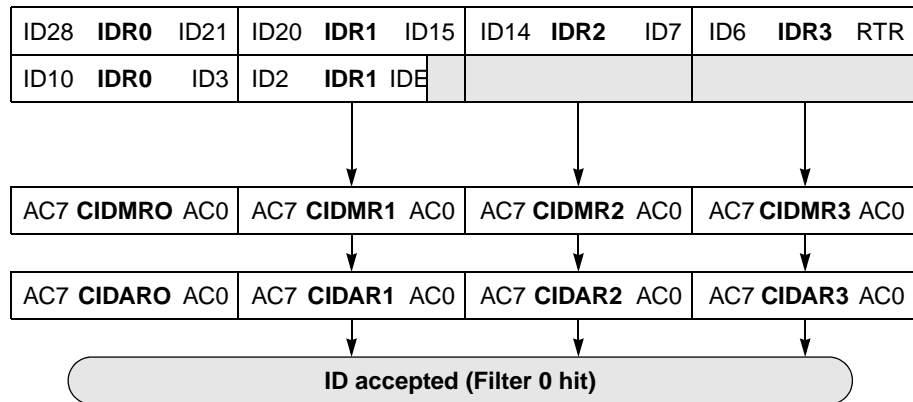

Figure 16-3. 32-Bit Maskable Identifier Acceptance Filter
1. Two identifier acceptance filters, each to be applied to the full 29 bits of the identifier and to three bits of the CAN frame: RTR, IDE, and SRR. This mode implements two filters for a full length CAN 2.0B compliant extended identifier. Figure 16-3 shows how the first 32-bit filter bank (CIDAR0–CIDAR3, CIDMR0–CIDMR3) produces a filter 0 hit. Similarly, the second filter bank (CIDAR4–CUIDAR7, CIDMR4–CIDMR7) produces a filter 1 hit.